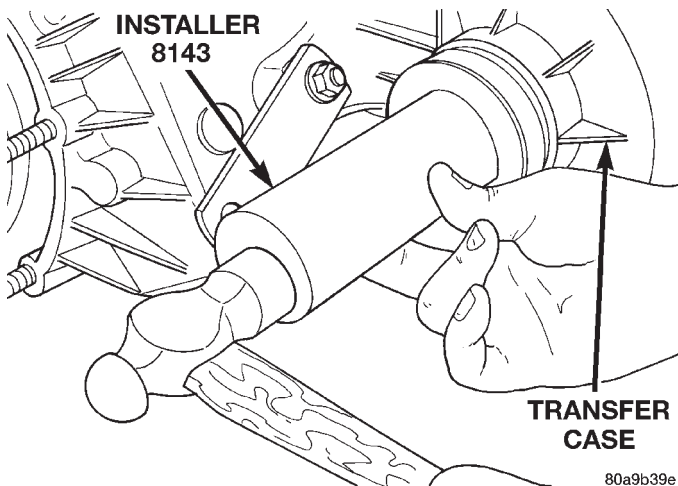

Fig. 45 Front Output Seal Installation
- (b) Start seal in bore with light taps from hammer (Fig. 45). Once seal is started, continue tap-